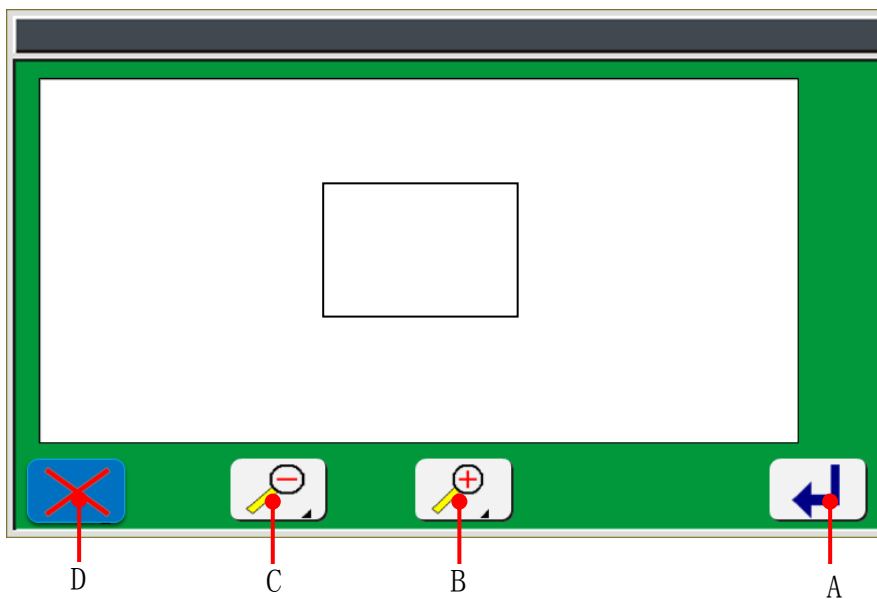

Figure 10-5 Pattern Preview Interface
(7) Touch the key to generate the stitch and enter the pattern preview interface (as shown in Figure 10-5); zoom and preview the modified pattern.
(8) Save pattern, and touch to save the modified segment pattern.
(9) If you do not want to save the pattern, omit the ninth step; directly press the key to abandon the operation; return to the pattern customization interface.
(3) Touch the direction key, center the segment starting point and rotate the segment end point to the proper position.
(4) In the segment rotation process, you can touch the key  to adjust the middle presser foot to be uplifted or depressed.
(5) Touch the key  to generate the stitch and enter the pattern preview interface (as shown in Figure 10-5); zoom and preview the modified pattern.
(6) Save pattern
(4) Touch the key  to enter the pattern preview interface (as shown in Figure 10-5); zoom and preview the modified pattern.
(5) Save pattern
(3) Touch the key  to enter the pattern preview interface (as shown in Figure 10-5); zoom and preview the modified pattern.